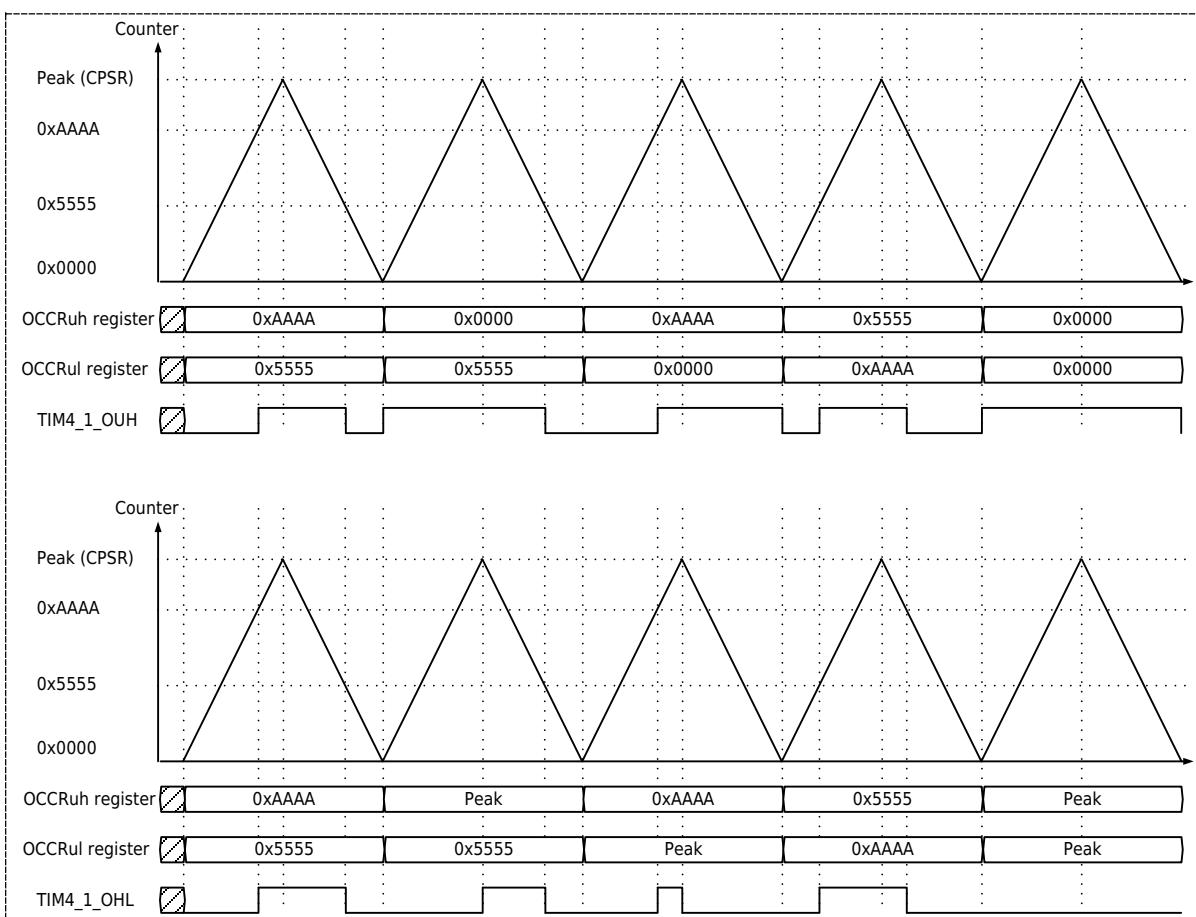

Figure 19-7 Triangle Wave Mode Waveform Output Example
- The following Figure 19-7 is an example of the waveform output of the comparison output module in the triangle wave count mode.